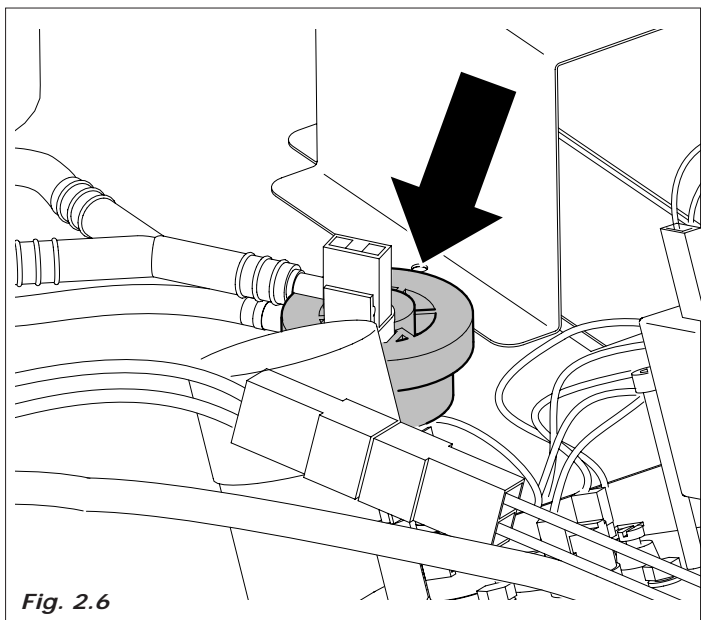

Fig. 2.6
- the pump that dispenses the quantity of programmed water and that is controlled by a specific electronic device, (volume meter), extracting the water from the coffee boiler (Fig.2.6).